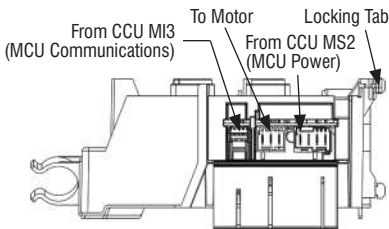

Figure 6 - Motor Control Unit (MCU)
6. Visually check that all connectors are inserted all the way into the MCU (see Figure 6, at left).